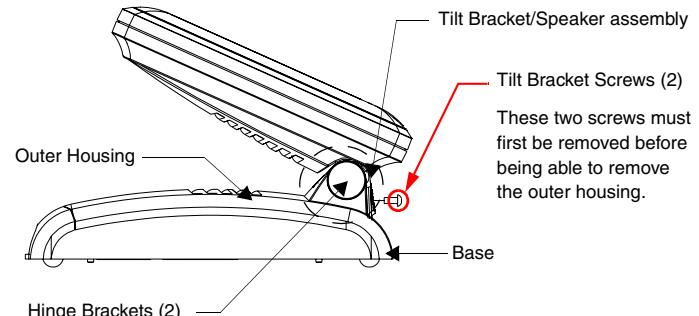

FIG. 7 Location of the attachment screws underneath an NXT panel base
5. Gently tilt the LCD panel backwards to expose the Tilt Bracket/Speaker assembly (FIG. 7).
- Locate the two screw holes at either sides of the front speaker grill and then use a grounded Phillips-head screwdriver to remove the two Tilt Bracket Screws (FIG. 7).
Without this step, the Hinge brackets (FIG. 7) present an obstacle to the removal of the outer housing and restrict access to the circuit board.
- Locate the two screw holes at either sides of the front speaker grill and then use a grounded Phillips-head screwdriver to both insert and secure the two Tilt Bracket Screws (FIG. 7). This procedure re-secures the rear Tilt Bracket cover plate (*with the AMX logo and Hinge brackets*).
- Press the outer housing forwards until it is aligned over the outer housing installation holes. Once installed and secured, the tilt bracket prevents any further movement (FIG. 7).